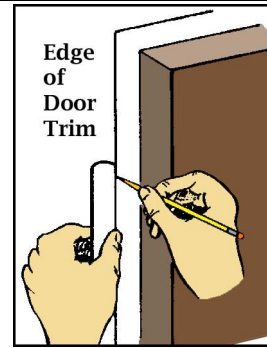

Figure 3
- **Step 5** As shown in Figure 3, using the straight edge of a steel ruler, the trim around a door, or the 12" length of brass angle, draw lines upward from the bottom of the tube for a distance of 1.5" for the fins, and 2.25" for the launch lug.